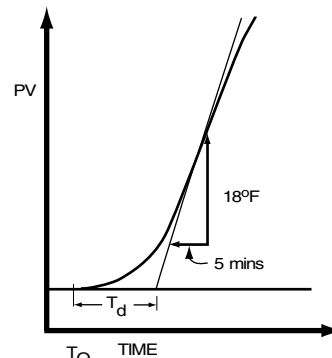

Figure 8. System Time Delay
3. Draw a line from the point of maximum slope back to the ambient temperature axis to obtain the lumped system time delay T_d (see Figure 8). The time delay may also be obtained by the equation:
Example: The chart recording in Figure 8 was obtained by applying full power to an oven. The chart scales are 10°F/cm, and 5 min/cm. The controller range is 100 to 600°F, or a span of 500°F.